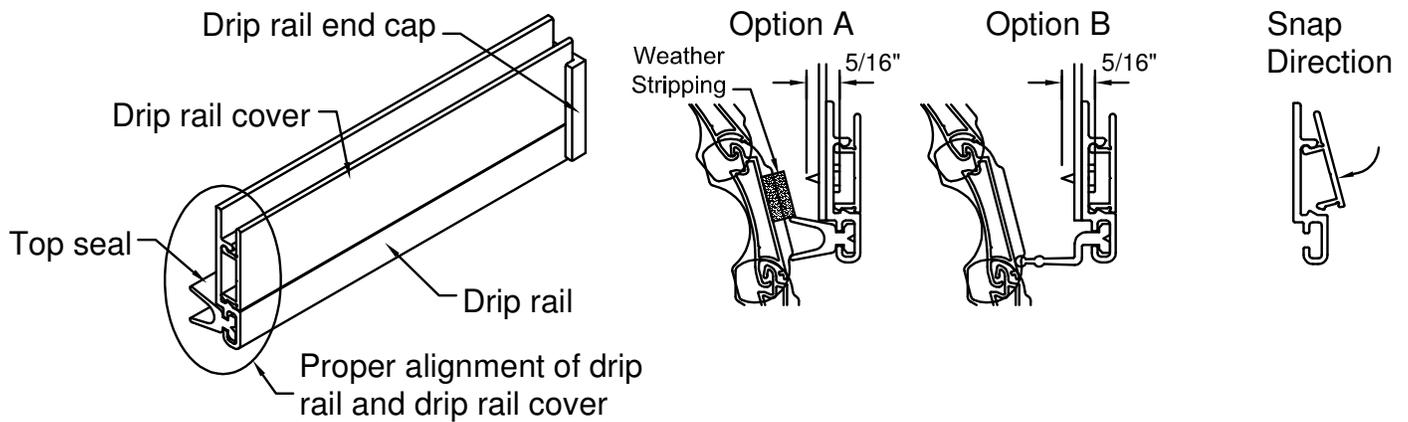

Fig. 3
- e) Using a soft rubber mallet or protective cloth and metal hammer, tap the snap cover into place or slide the cover into the end of the drip rail. Then using the same equipment tap on both end caps onto the ends of the drip rail. (Fig. 3)